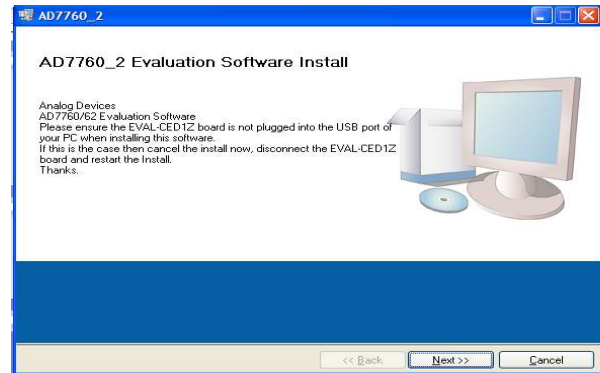

Figure 2. EVAL-AD7763\_2EDZ Setup Dialog Box, Initial Software Install Screen
2. The dialog box shown in Figure 2 appears.